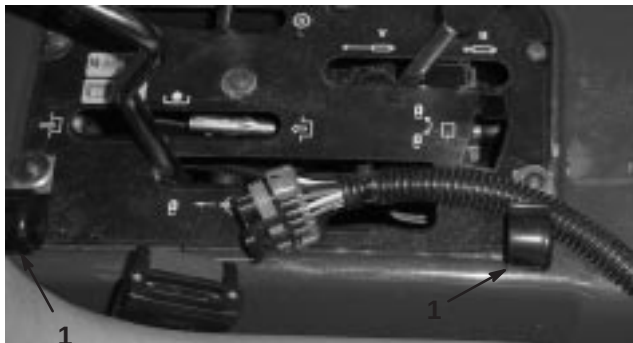

Figure 15
2. Using the previously removed dash screws and (2) new washers, mount (2) J-Clips to the dash as shown in figure 15.